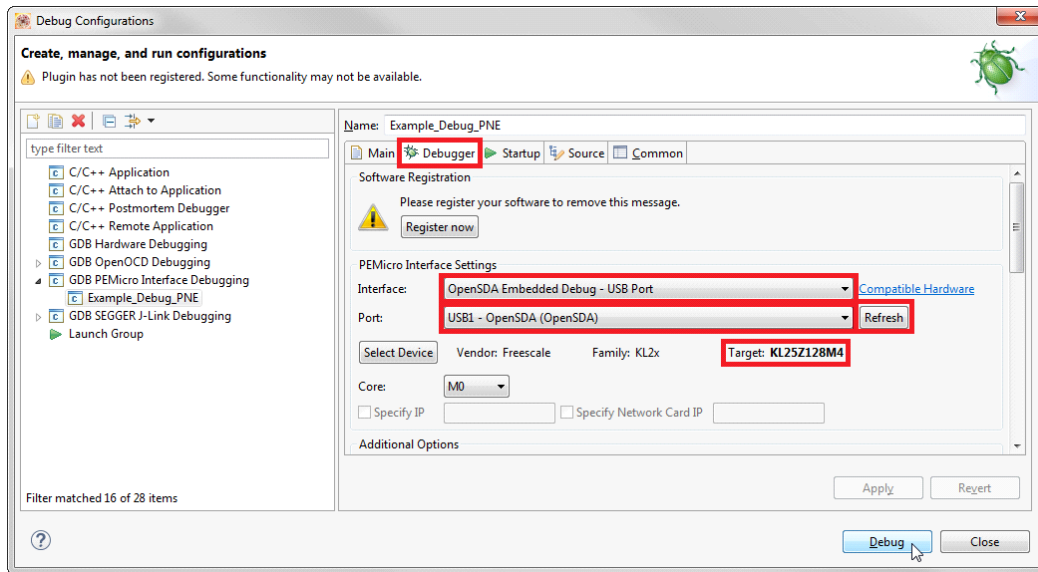

Figure 34. Downloading the application (c)
4. Click the **Debugger** tab and set Interface option to **OpenSDA Embedded Debug - USB Port**. Then click the **Refresh** button next to the **Port** setting to update the list of available USB ports (see Figure 34).